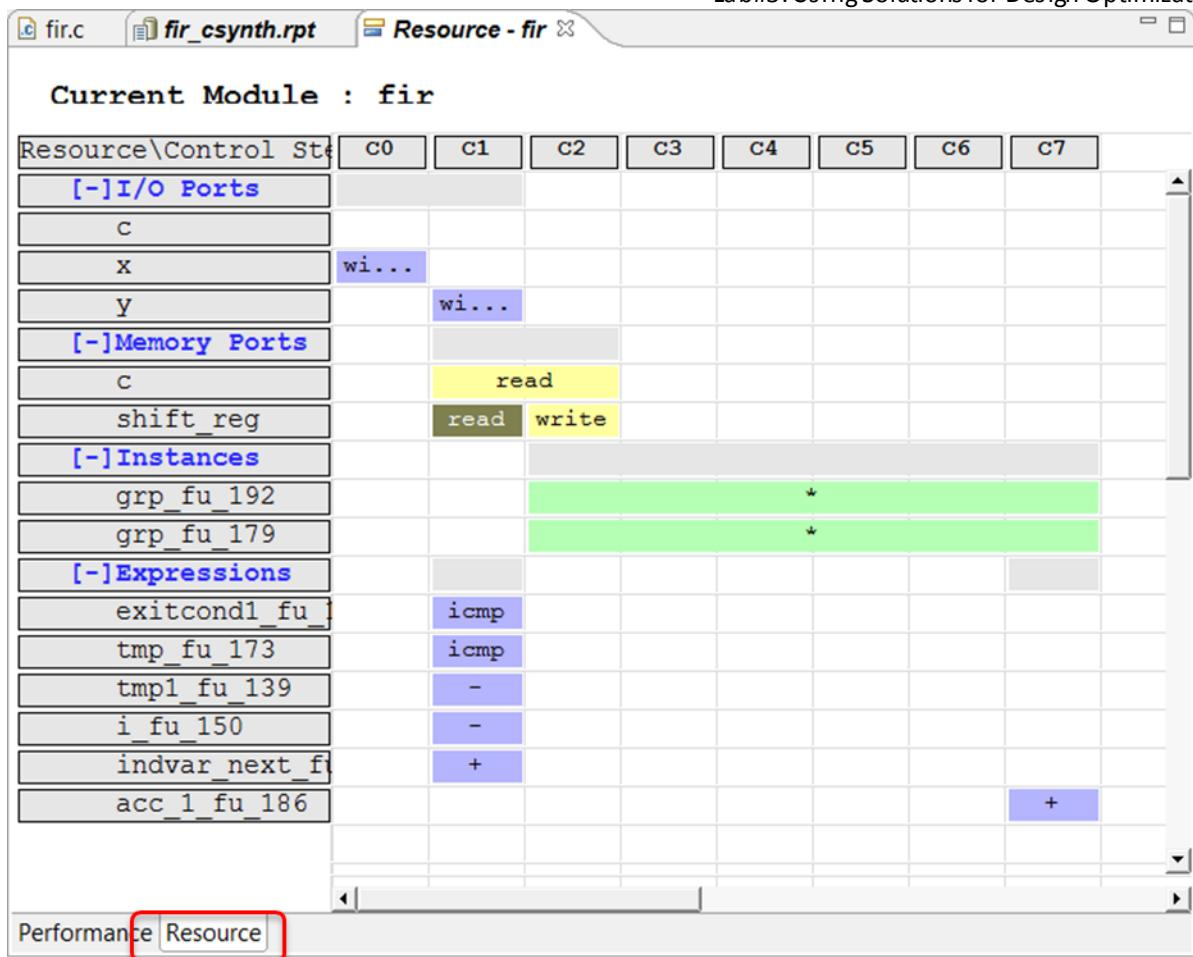

Figure 27: Solution2 Analysis Perspective: Resource
3. Click on the Resource view as shown in Figure 27.
4. Expand all of the resource groups (also shown in Figure 27).
Figure 27 shows: